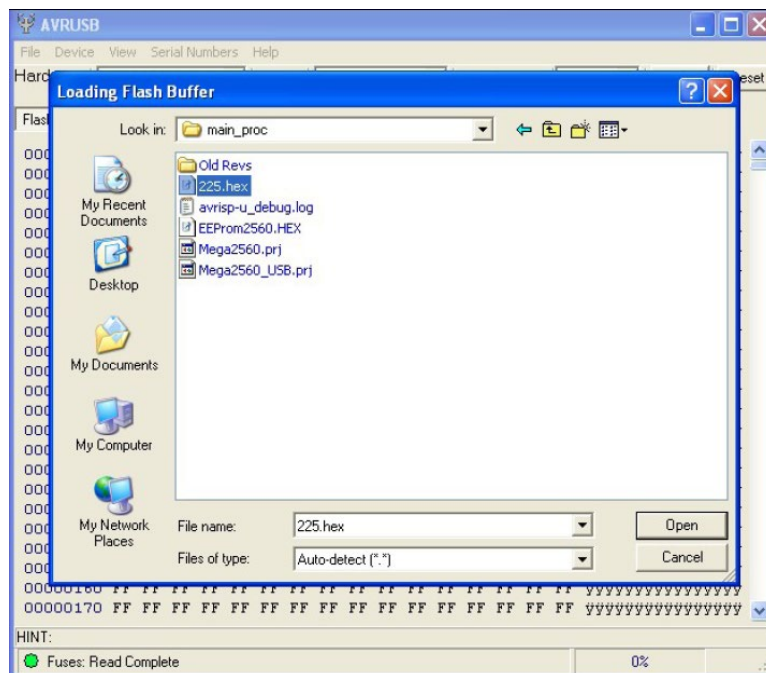
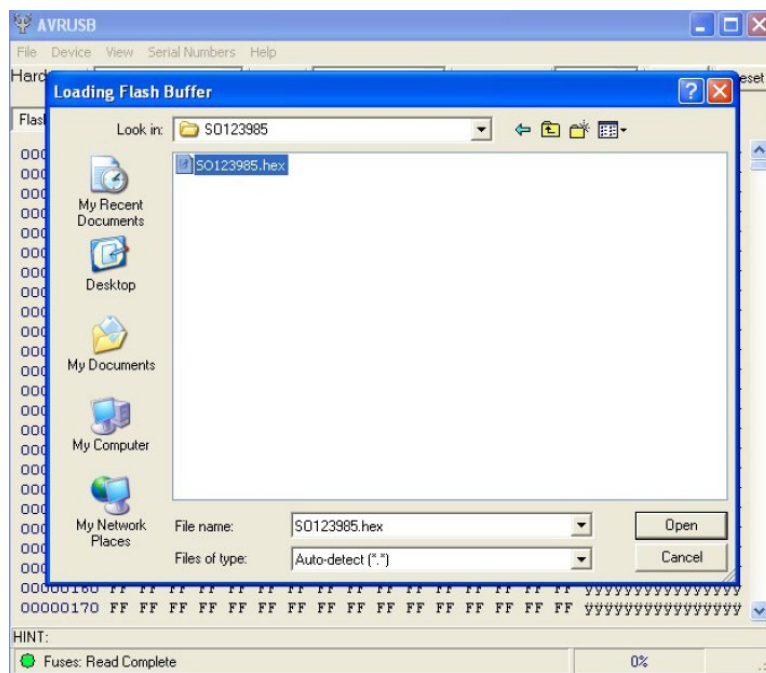

Figure 14
Figure 15
13. Browse to the location where you saved the hex file (.hex). Then click on the file to highlight it and click *Open* to select it. *The suggested location to store this file in Step 2 was in My Documents.* See Figures 14 and 15. Figure 14 shows a standard 225D hex file while Figure 15 shows a custom firmware hex file. **NOTE:** Some custom firmware files could also start with the letter “B” such as “B12345”.